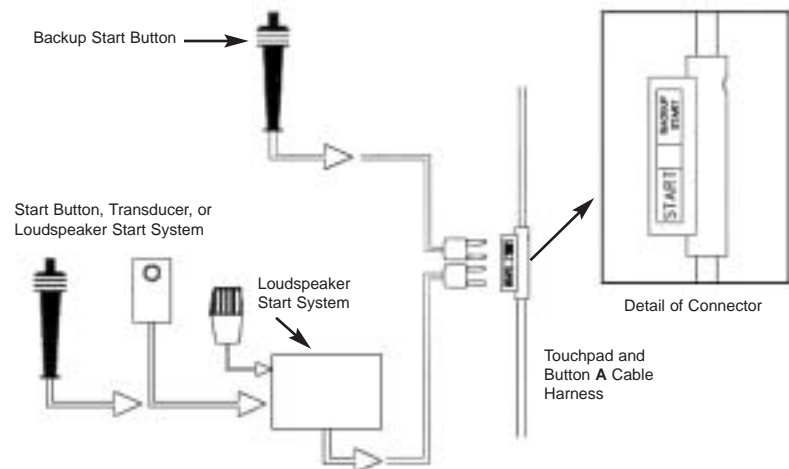

Figure 2-A Start System Connections
- 1) To set up a loudspeaker start system, place the start console a safe distance from the pool and plug in the microphone. Route the loud speaker cable harness along the edge of the pool and connect the speaker(s) to the harness, as shown in Figure 2-G